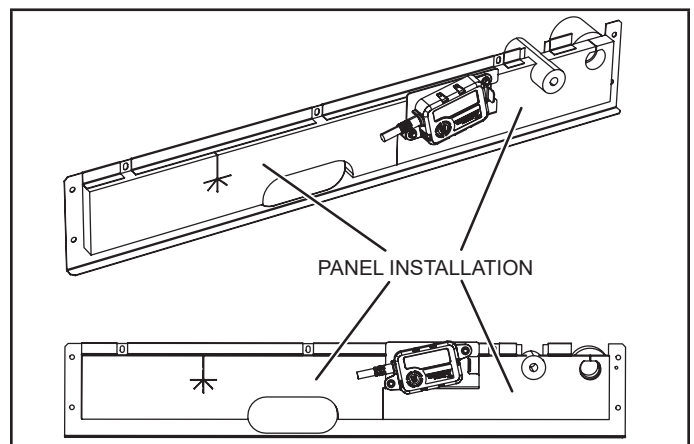

**FIGURE 18**
- 2 - Install sensor on the bracket (figures 18 and 19).